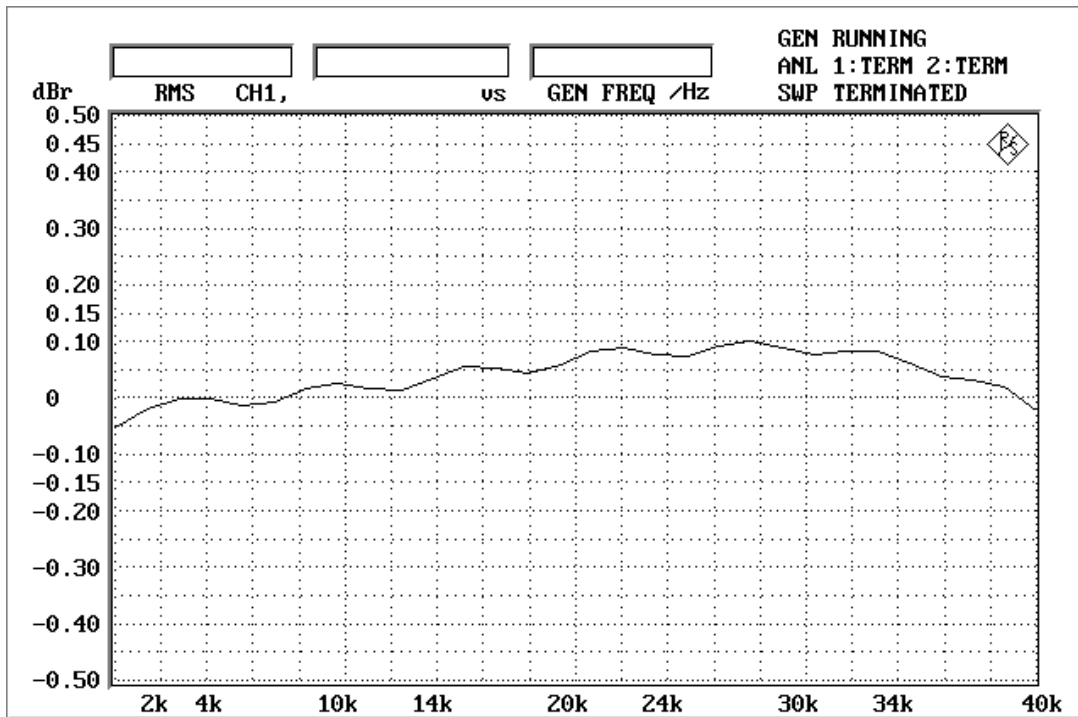

Figure 1-2-4. Frequency response
- Figure 1-2-4. Frequency response